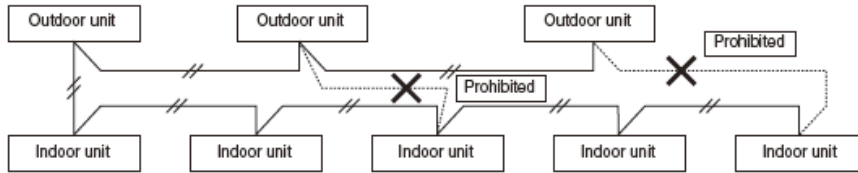

Fig.8-3
- (2) Do not install the inter-unit control wiring in a way that forms a loop.(Fig.8-3)